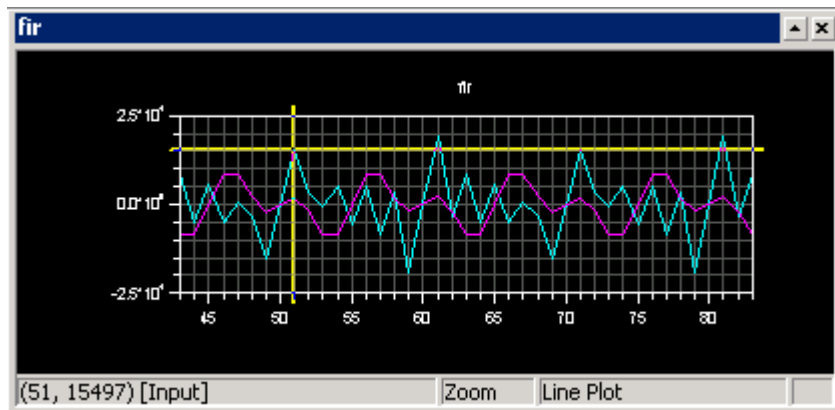

Figure 3-29. Plot Window: Viewing Individual Data Points by Using the Data Cursor Feature
6. Right-click inside the Plot window and choose **Data Cursor** from the popup menu. Then move through the individual data points in the current data set by pressing and holding the Left ( $\leftarrow$ ) and Right ( $\rightarrow$ ) arrow keys on the keyboard. The value of the current data point appears in the lower-left corner of the Plot window, as shown in Figure 3-29.